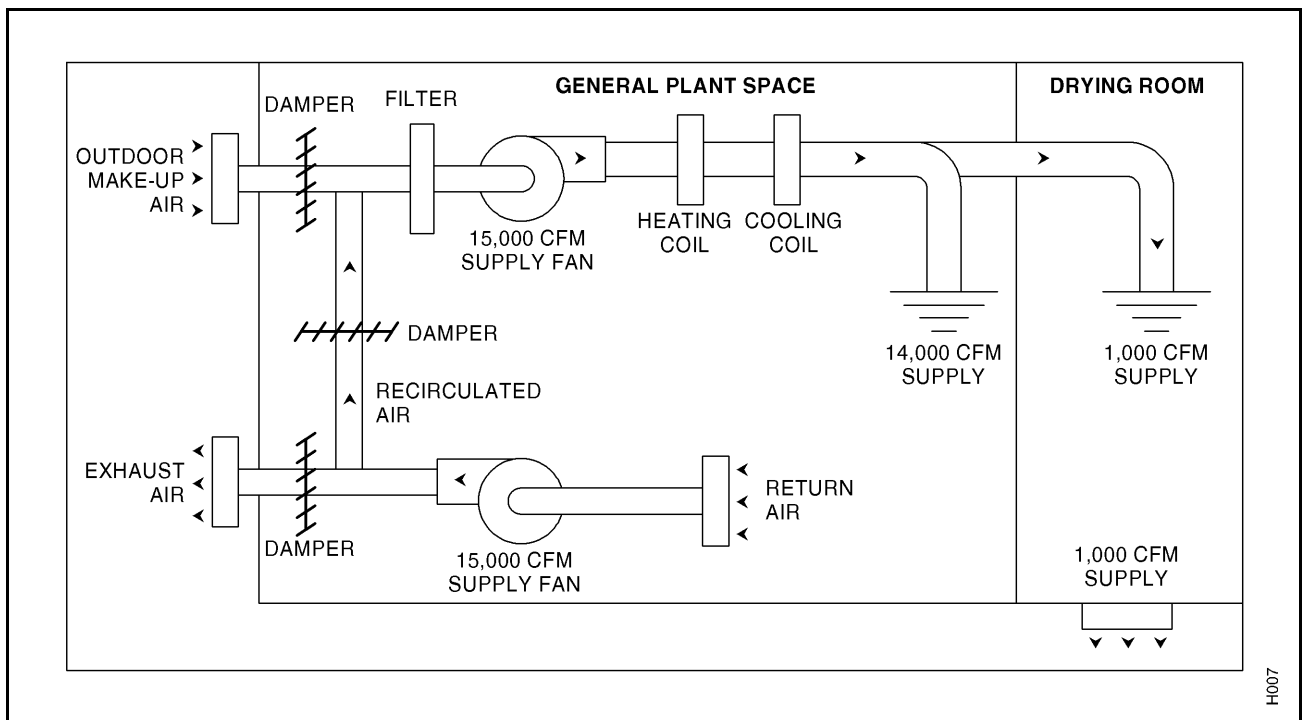

Figure 1. Schematic of a Typical Print Shop HVAC System
(Refer to Figure 1.)
*(Refer to Figure 1.)*
(6) Using an economizer cycle: